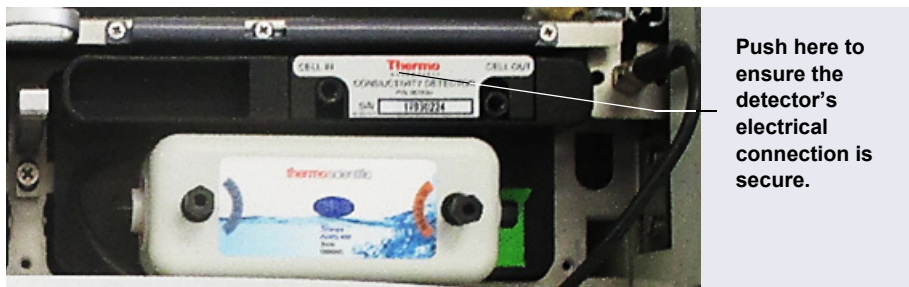

Figure 9-3. Conductivity Detector Connection
1. Check the detector connection: An electronics connector on the back of the detector plugs into a receptacle on the detector compartment. Push on the upper part of the detector (see Figure 9-3) to ensure that the connector is securely connected.